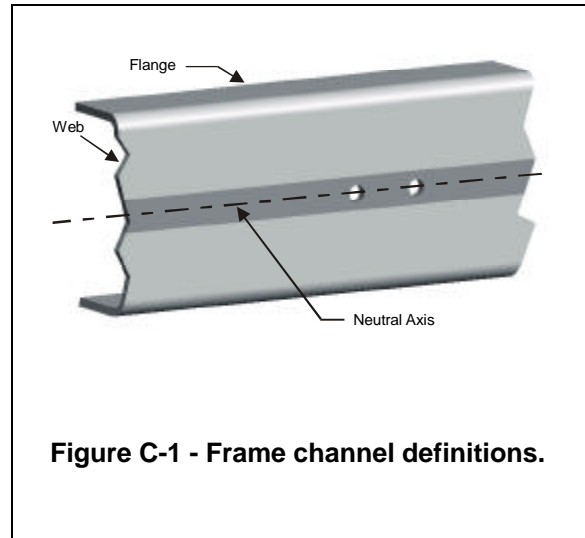

Figure C-1 - Frame channel definitions.
- Do not drill holes in the frame flanges or upper or lower part of the web without guidance from the truck manufacturer. Figure C-1 shows the important parts of a frame channel. The channel's flanges contribute greatly to the strength of the frame. Weakening them by drilling holes is not advisable, unless you have the technical expertise or information that says otherwise.
- If holes are necessary, plan to drill any holes along or near the neutral axis of the frame. Most truck frames are symmetrical top to bottom, which means that the neutral axis is the center line of the frame (halfway down from the top). Figure C-1 illustrates the location of the neutral axis and shows two holes located directly along it. The darker gray stripe illustrates the approximate zone in which it's normally safe to drill.